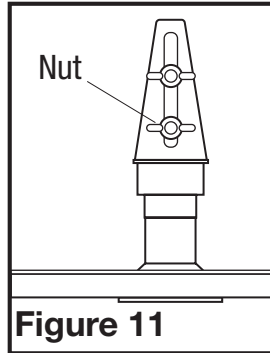

Figure 11
2. Locate the lamp holder bracket mounted on the back wall of the hood (**Figure 11**).